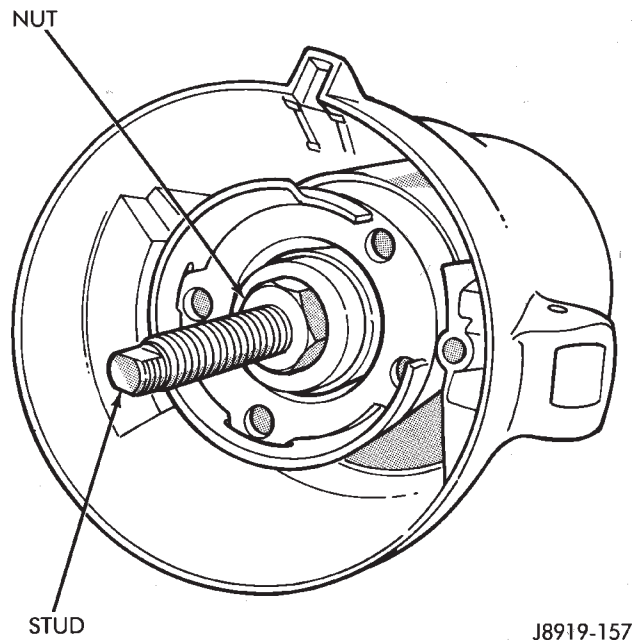

Fig. 21 Shift Tube Installation
must engage the shift tube inner shoulder. The tool guide must be seated in the shift tube (Fig. 21).
(5) Tighten the nut on the stud (Fig. 21) only enough to obtain a snug fit against the spring tension.